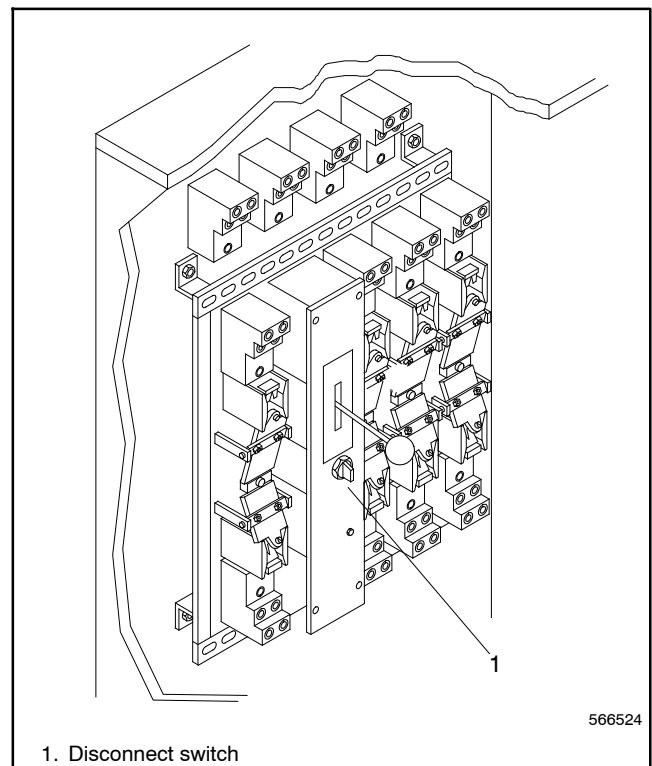

Figure 3-3 ATS Disconnect Switch
3. Set the disconnect switch (DS) to disconnect the controller from the switch solenoid(s).
4. Insert the operator handle and set the switch shown in Figure 3-3 to the desired position.
1. Open the cabinet door and turn the disconnect switch to the inhibit position. See Figure 3-3.